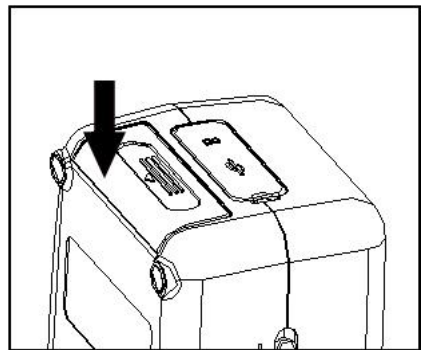

Figure4. Mounting the battery cover
3. Follow the directions on Figure 4, press up to mount the battery cover into the compartment.